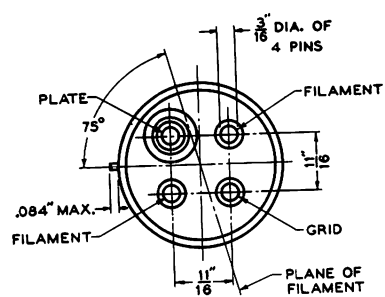

FIG. 2
**Mounting**—Large four-pin bayonet base suitable for use in a W.E. 112A or similar socket for either vertical or horizontal mounting. If mounted horizontally the plane of the filament, which is indicated in Figure 2, should be vertical.